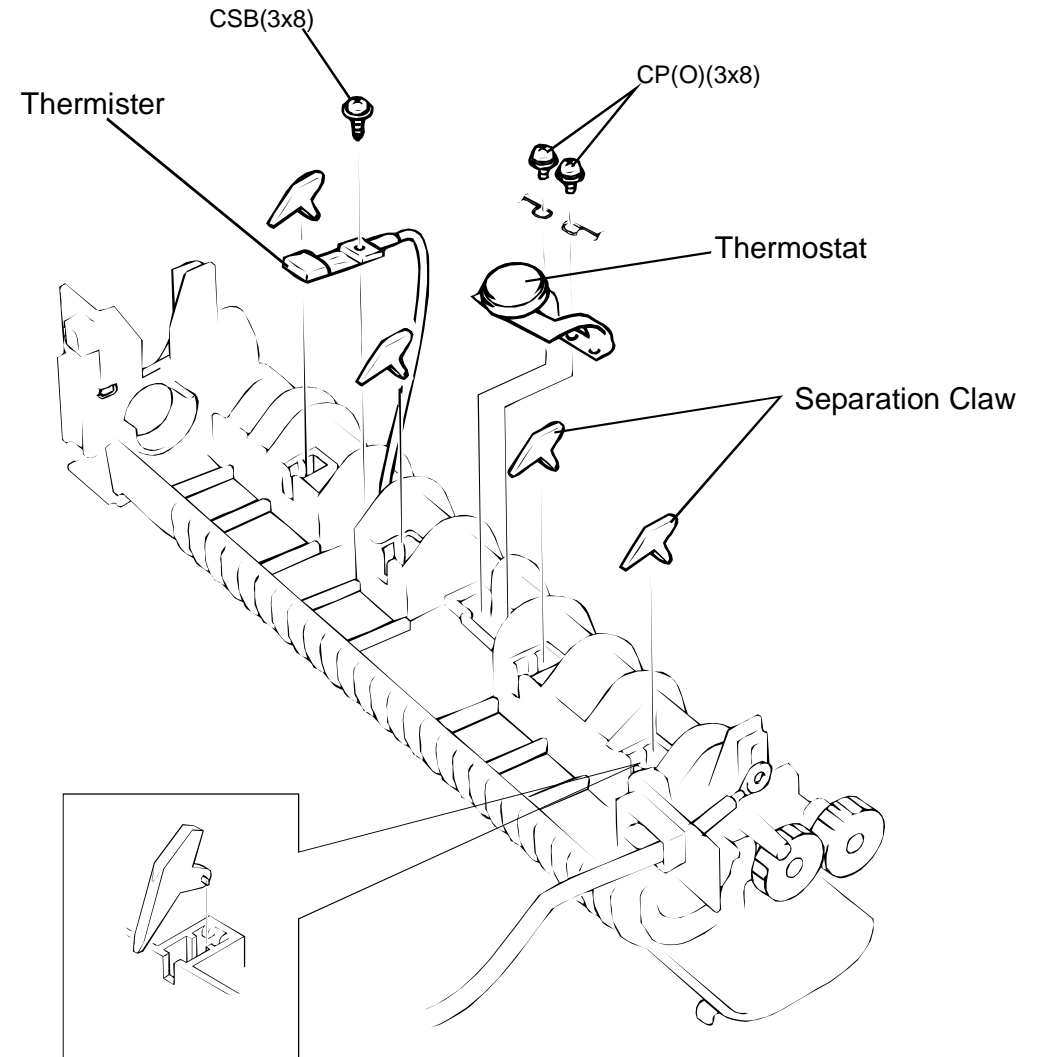

Figure 4-28. Thermister and Thermostat Removal
- Face down the sharp side of the separation claws as it is shown in Figure4-28, when removing or installing them.